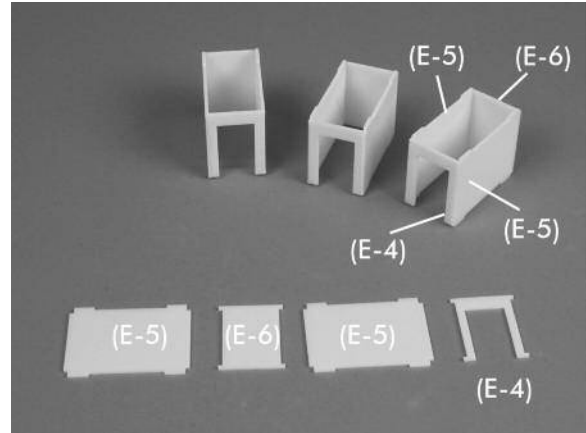

Figure 8
Assemble the upper floor elevator shafts. You will build a total of eight. Glue parts (E-4), two parts (E-5) and (E-6) together to form a box. The two parts (E-5) fit between parts (E-4) and (E-6). Dry fit the elevator shaft into the slots on part (B) or parts (D) while the glue is still soft so that it will dry square. When the glue has completely hardened remove the elevator shaft and block sand to get sharp corners. See Figure 8.